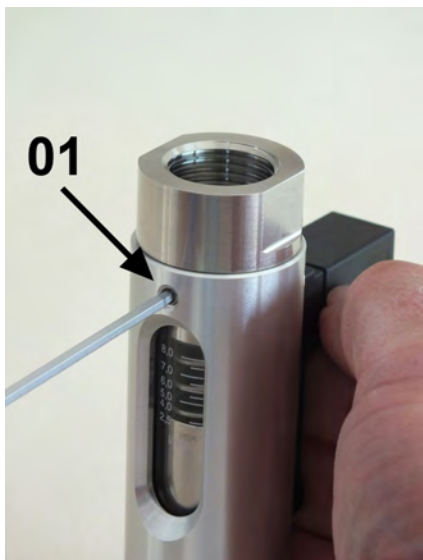

Fig. 51: Tighten hex socket screws
- 14.** ➤ Tighten the 3 hex head screws (Fig. 51/01), observing the proper torque (↗ Chapter 11.1 “Tightening torque” on page 75).